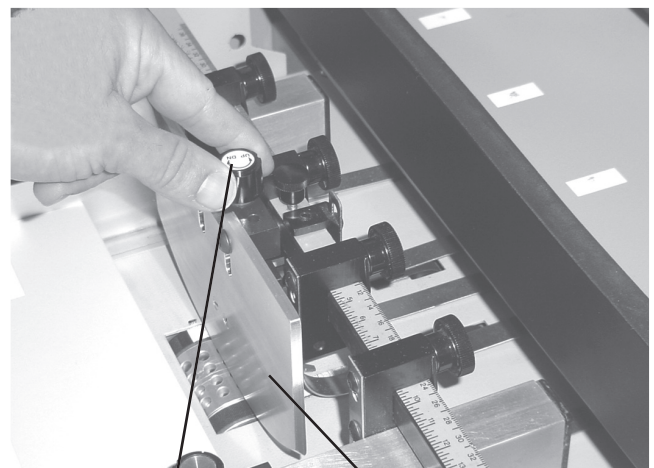

Fig 16 Separator Guide Adjusting Knob Separator Guide Plate
3. Raise the sheet separator counter clockwise (ccw) so it is away from the sucker wheel (Fig 16). Place a sheet of the paper to be folded on the feed table. Slide the sheet forward into the rollers. The sheet must contact the rollers evenly and not touch the side guides. Turn Burster and blower on and press the jog button to feed in approx. 1/2" (12.7mm) of the form into the rollers.
1. Raise the separator (ccw) (Fig. 16) to avoid marking the sucker wheel. **NOTE:** Do not make separator adjustments while the burster is running.